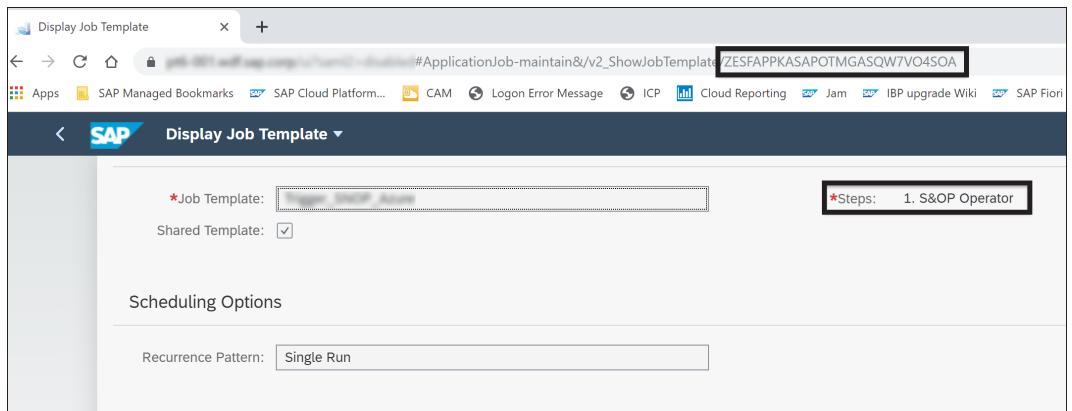

Figure 7.8 Creating the Application Job Template in SAP IBP
1. In SAP IBP, create an application job template through the Application Job Templates app. Figure 7.8 shows an example of creating an application job template in SAP IBP.